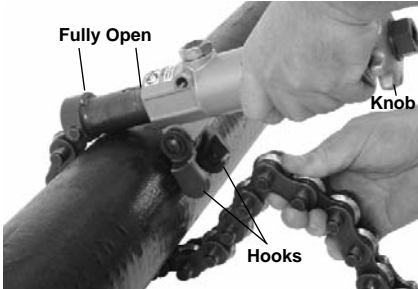

Figure 3 – Cutter Fully Open, Hooking the Chain
7. Grip the adjusting knob of the soil pipe cutter and turn counter clockwise to fully open (*Figure 3*).